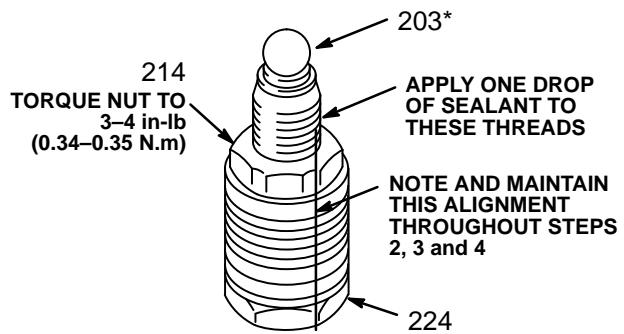

Fig 19-2
2. Tighten the packing retaining nut (214) against the gland (213) and torque to 3–4 in-lb (0.34 – 0.35 N.m). See Fig 19-2.
3. Apply 1 drop only of sealant, supplied with the repair kit, to the piston valve threads. Place the small ball (203*) on the valve. See Fig 19-2. Hand tighten the valve into the rod (223) just until the nut contacts the rod. Place the flats of the displacement rod in a vise.